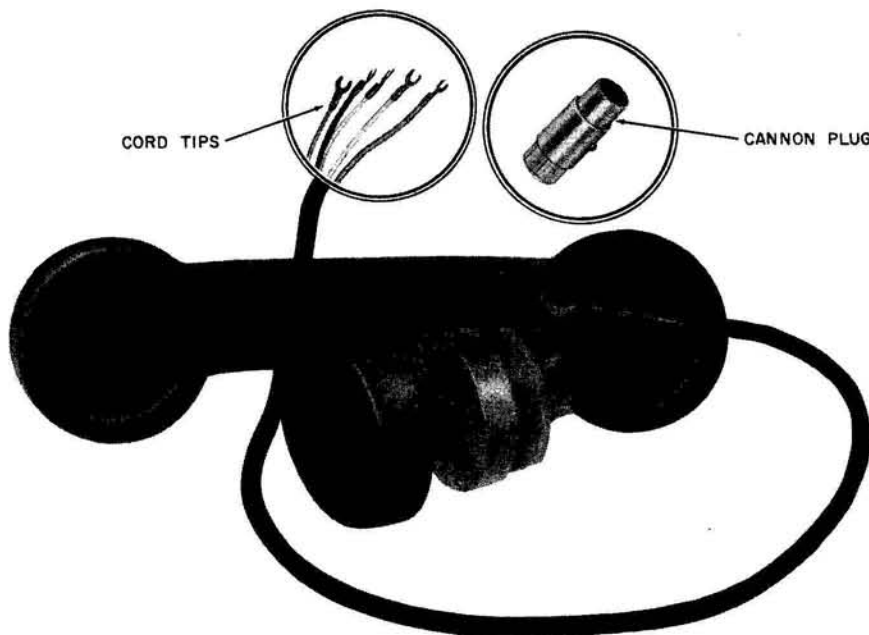

Fig. 1 — KS-16504 Handset
2.01 The KS-16504 handset (Fig. 1) is a standard G3A-3 handset with the exception of the transmitter, transmitter cap, and cord. This handset utilizes a pressure transmitter and is coded KS-16504, List 10 transmitter unit. See Table A for other KS-type handsets.